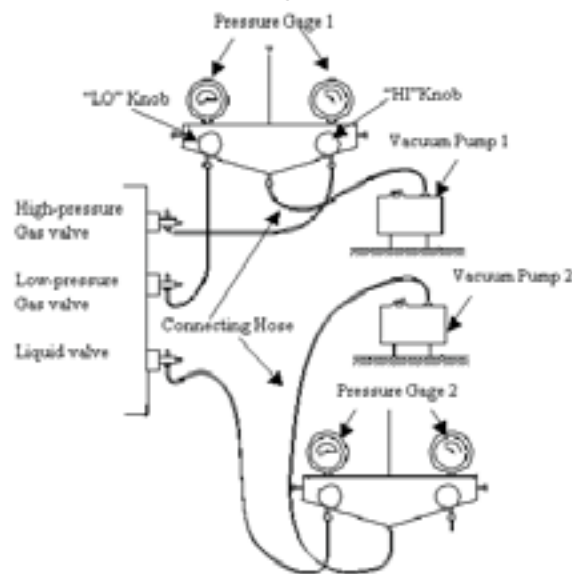

Fig.26
- (2) When there are more than 2 outdoor units confirm outdoor oil balance valves are closed. See Fig.26.